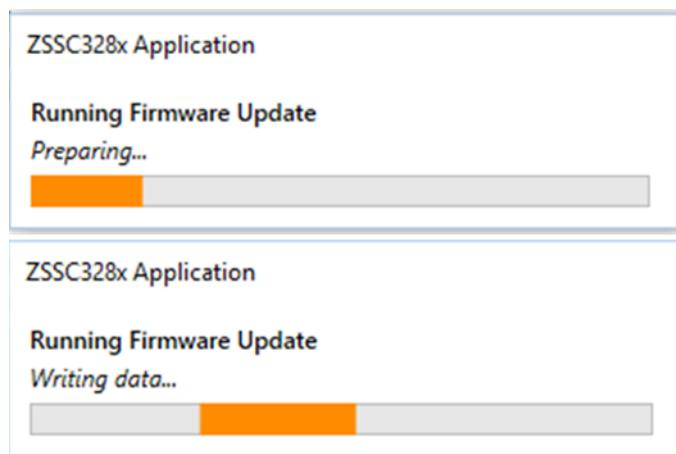

Figure 194. FW Update Operation
2. Click the “Start Firmware Update” button. The ‘ZSSC328x Application’ window pops-up (see Figure 194). The button is enabled if all criteria to perform a FW update is met.